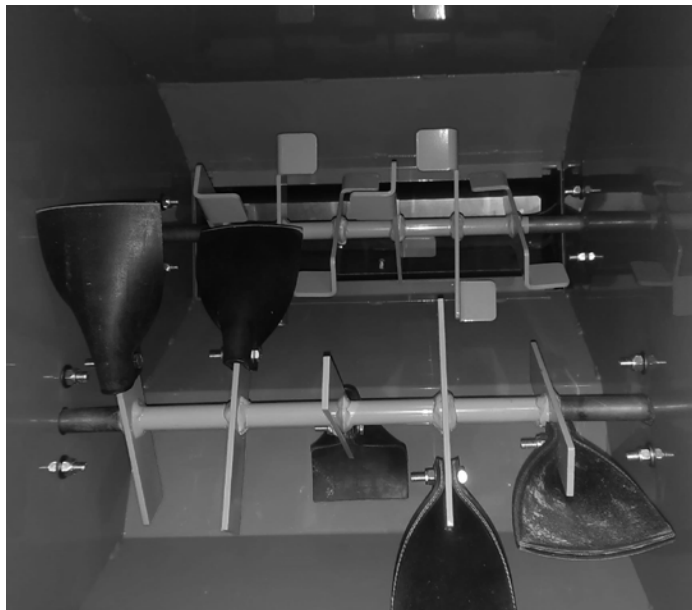

Figure 3
- 5) Keep hands, and arms out of the hopper (Figure 3) and away from any moving parts